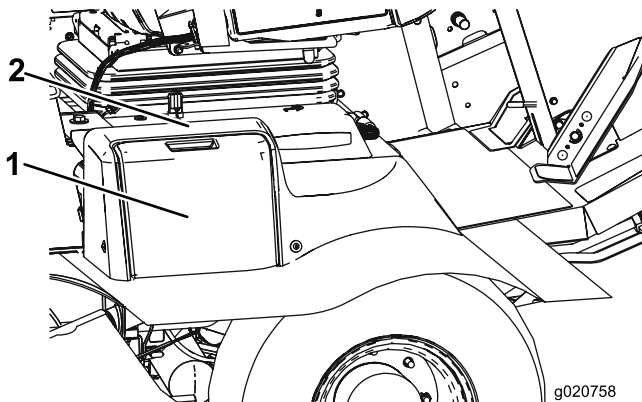

Figure 53
1. Open the battery cover on the side of the shroud (Figure 53).
Note: Press down on the flat surface above the battery cover to ease the removal of the cover (Figure 53).